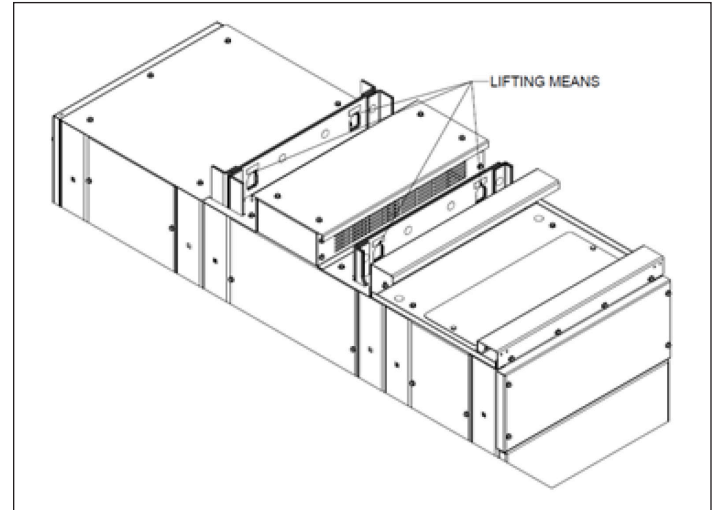

Figure 1. Typical indoor lifting means
Lifting means are a part of each switchboard shipping length. Lifting a switchboard by crane is the recommended method for moving this equipment. At least four (4) lift points (two forward, two rearward) are to be utilized to lift PRLXD switchgear shipping sections. These lift points are identified with labels. See **Figure 1**.